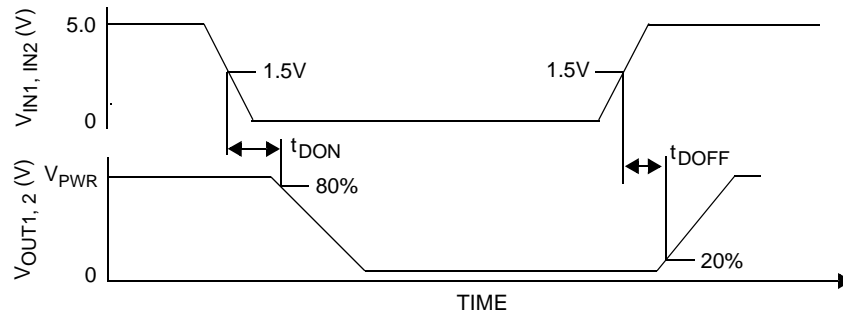

Figure 4. Output Delay Time
23. * Output Delay is the time duration from 1.5V on the IN1 or IN2 input signal to the 20% or 80% point (dependent on the transition direction) of the OUT1 or OUT2 signal. If the output is transitioning HIGH-to-LOW, the delay is from 1.5V on the input signal to the 80% point of the output response signal. If the output is transitioning LOW-to-HIGH, the delay is from 1.5V on the input signal to the 20% point of the output response signal. See Figure 4, page 9.